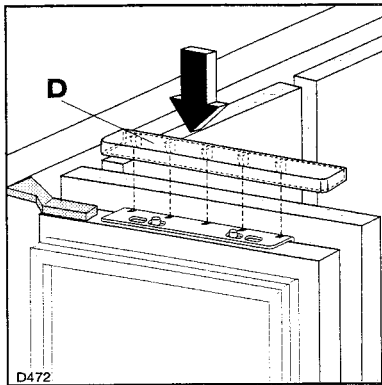

**Fig. 9**
Hook the decorative panel onto the top part of the door, inserting the pins (B) (on the door) into the elongated holes (1) (in the top bracket fitted to the panel) (Fig. 9).
Insert the securing screws (C) through elongated holes (2) and fix the panel without tightening the screws (Fig. 9).